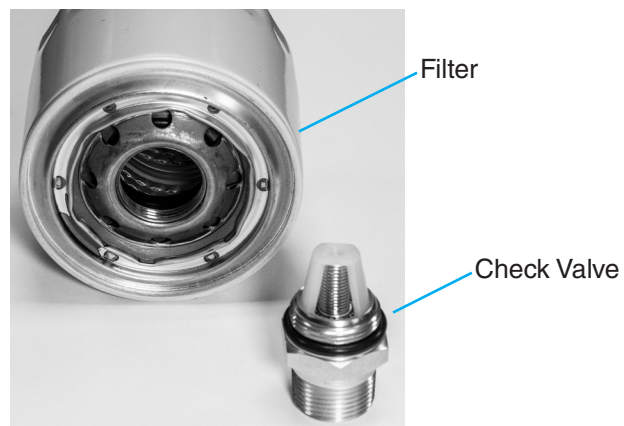

Figure 5-5-12 Breather Assembly
5. Remove the check valves. Discard the old filters in accordance with local regulations. See Figure 5-5-12.